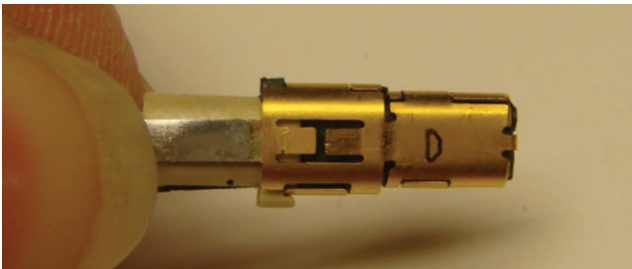

Figure 30: Locking outer body onto rear insulators
22. Slide the outer body pieces onto the rear insulators at the end of the cable, while locking them together (Figure 30). **Note:** Unlike the single-piece outer body for the receptacle, the plug's outer body is two pieces that must be locked together.